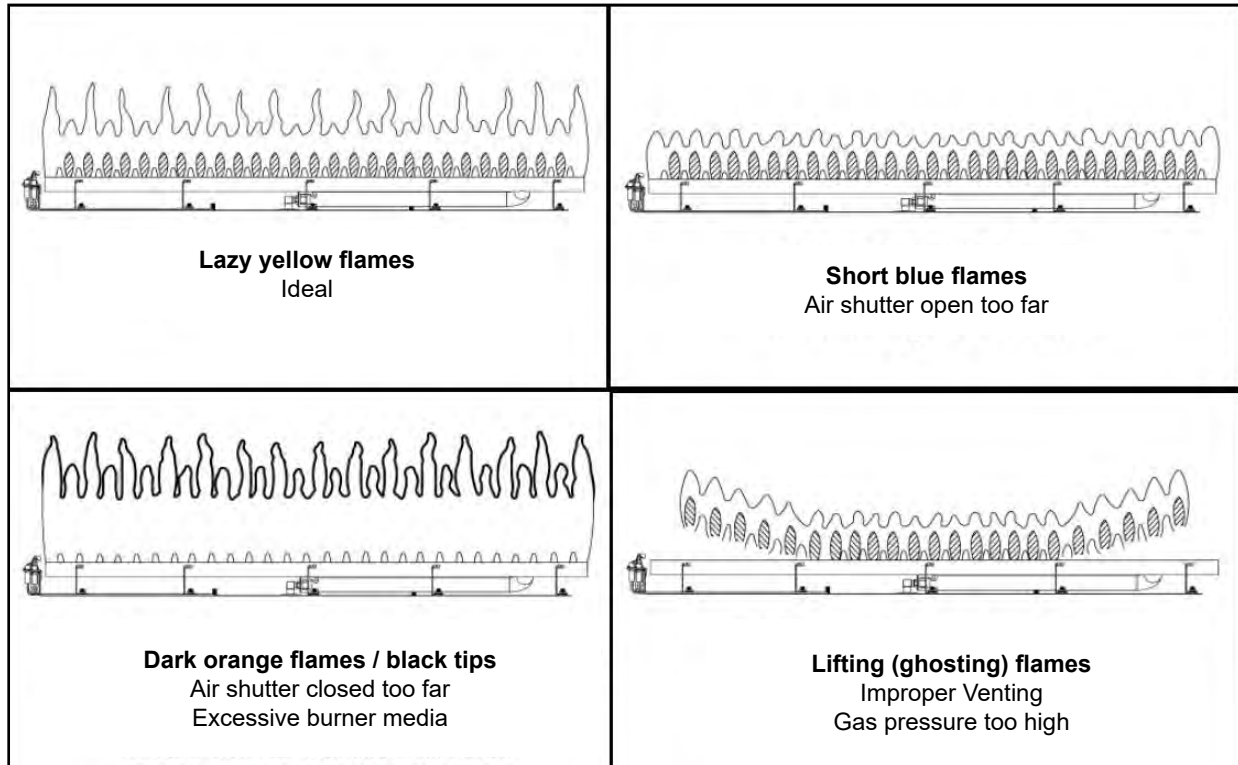
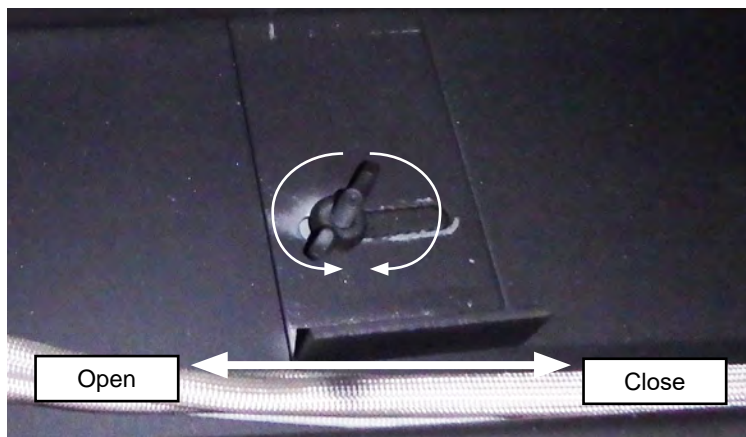

Figure 18.5.01:
Figure 18.5.02:
- Inspect and ensure the lighting of the main burner occurs within 4 seconds of the main gas valve opening. Flames should match those shown in **Figure 18.5.01**
The 41-DVTE41LN-2 includes an air shutter located under the door of the fireplace (see **Section 6.5** for information on how to access the air shutter adjuster), which may be used to adjust the primary air to achieve the ideal flame as shown in **Figure 18.5.01**. To adjust, loosen the wing nut on the air shutter adjuster and adjust as shown in **Figure 18.5.02**. To open the air shutter and increase air flow to the burner, slide the air shutter to the left. To close the air shutter and decrease air flow to the burner, slide the air shutter to the right.